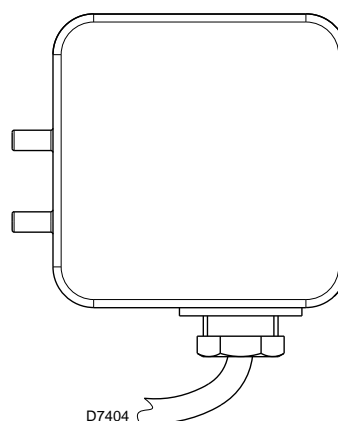

Fig. 21
- Adjust the air pressure switch (Fig. 21) to the start of the scale.
Adjust the air pressure switch (Fig. 21) after performing all other burner adjustments with the air pressure switch set to the start of the scale.